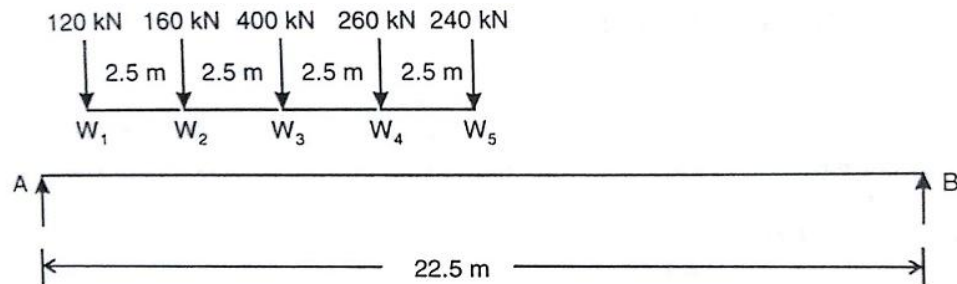

Figure 3.3
5. A train of 5 wheel loads crosses a simply supported beam of span 22.5 m as shown in Figure 3.3 .Using influence lines, calculate the maximum positive and negative shear forces at mid span and absolute maximum bending moment anywhere in the span